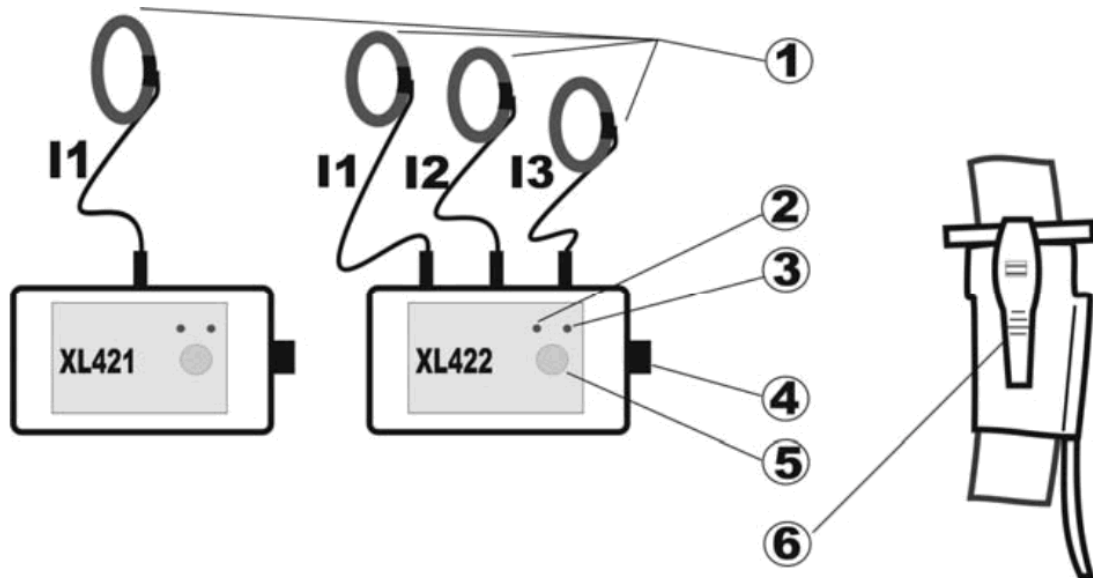

Fig. 1: Instrument description
2. Open the flexible head by pressing on expected points (see Fig. 1).
2. Open the flexible heads by pressing on expected points (see Fig. 1).